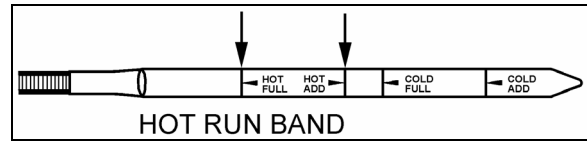

FIGURE 5: HOT CHECK
- If the level is **not** within this band, add or drain fluid as necessary to bring the level within the HOT RUN band. (Fig. 5).